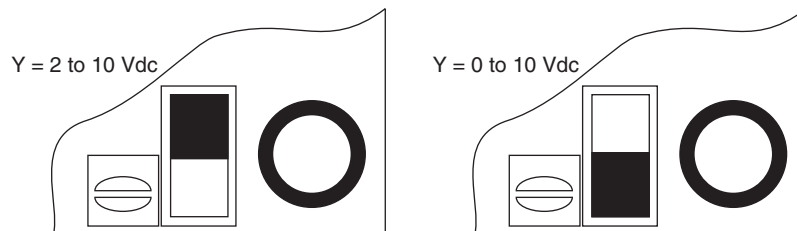
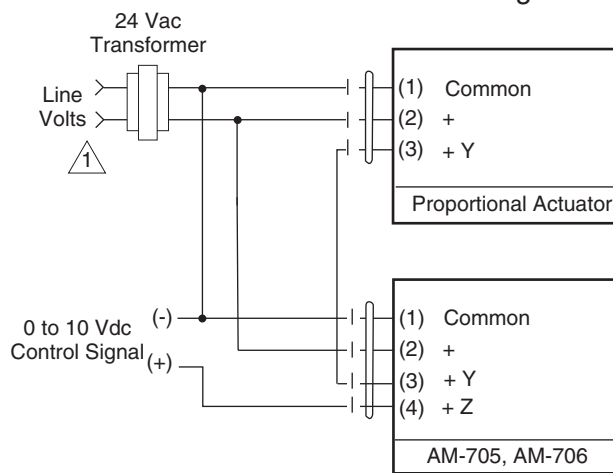

Figure-8 AM-706 Output Switch Settings.
Figure-13 AM-705 and AM-706 Wiring Diagram.
5. Connect wires (Figure-13) and set output switch to either 2 to 10 Vdc or 0 to 10 Vdc (Figure-8).
2. Set the output to 2 to 10 Vdc or 0 to 10 Vdc (Figure-8).
7. Connect wires (Figure-13).